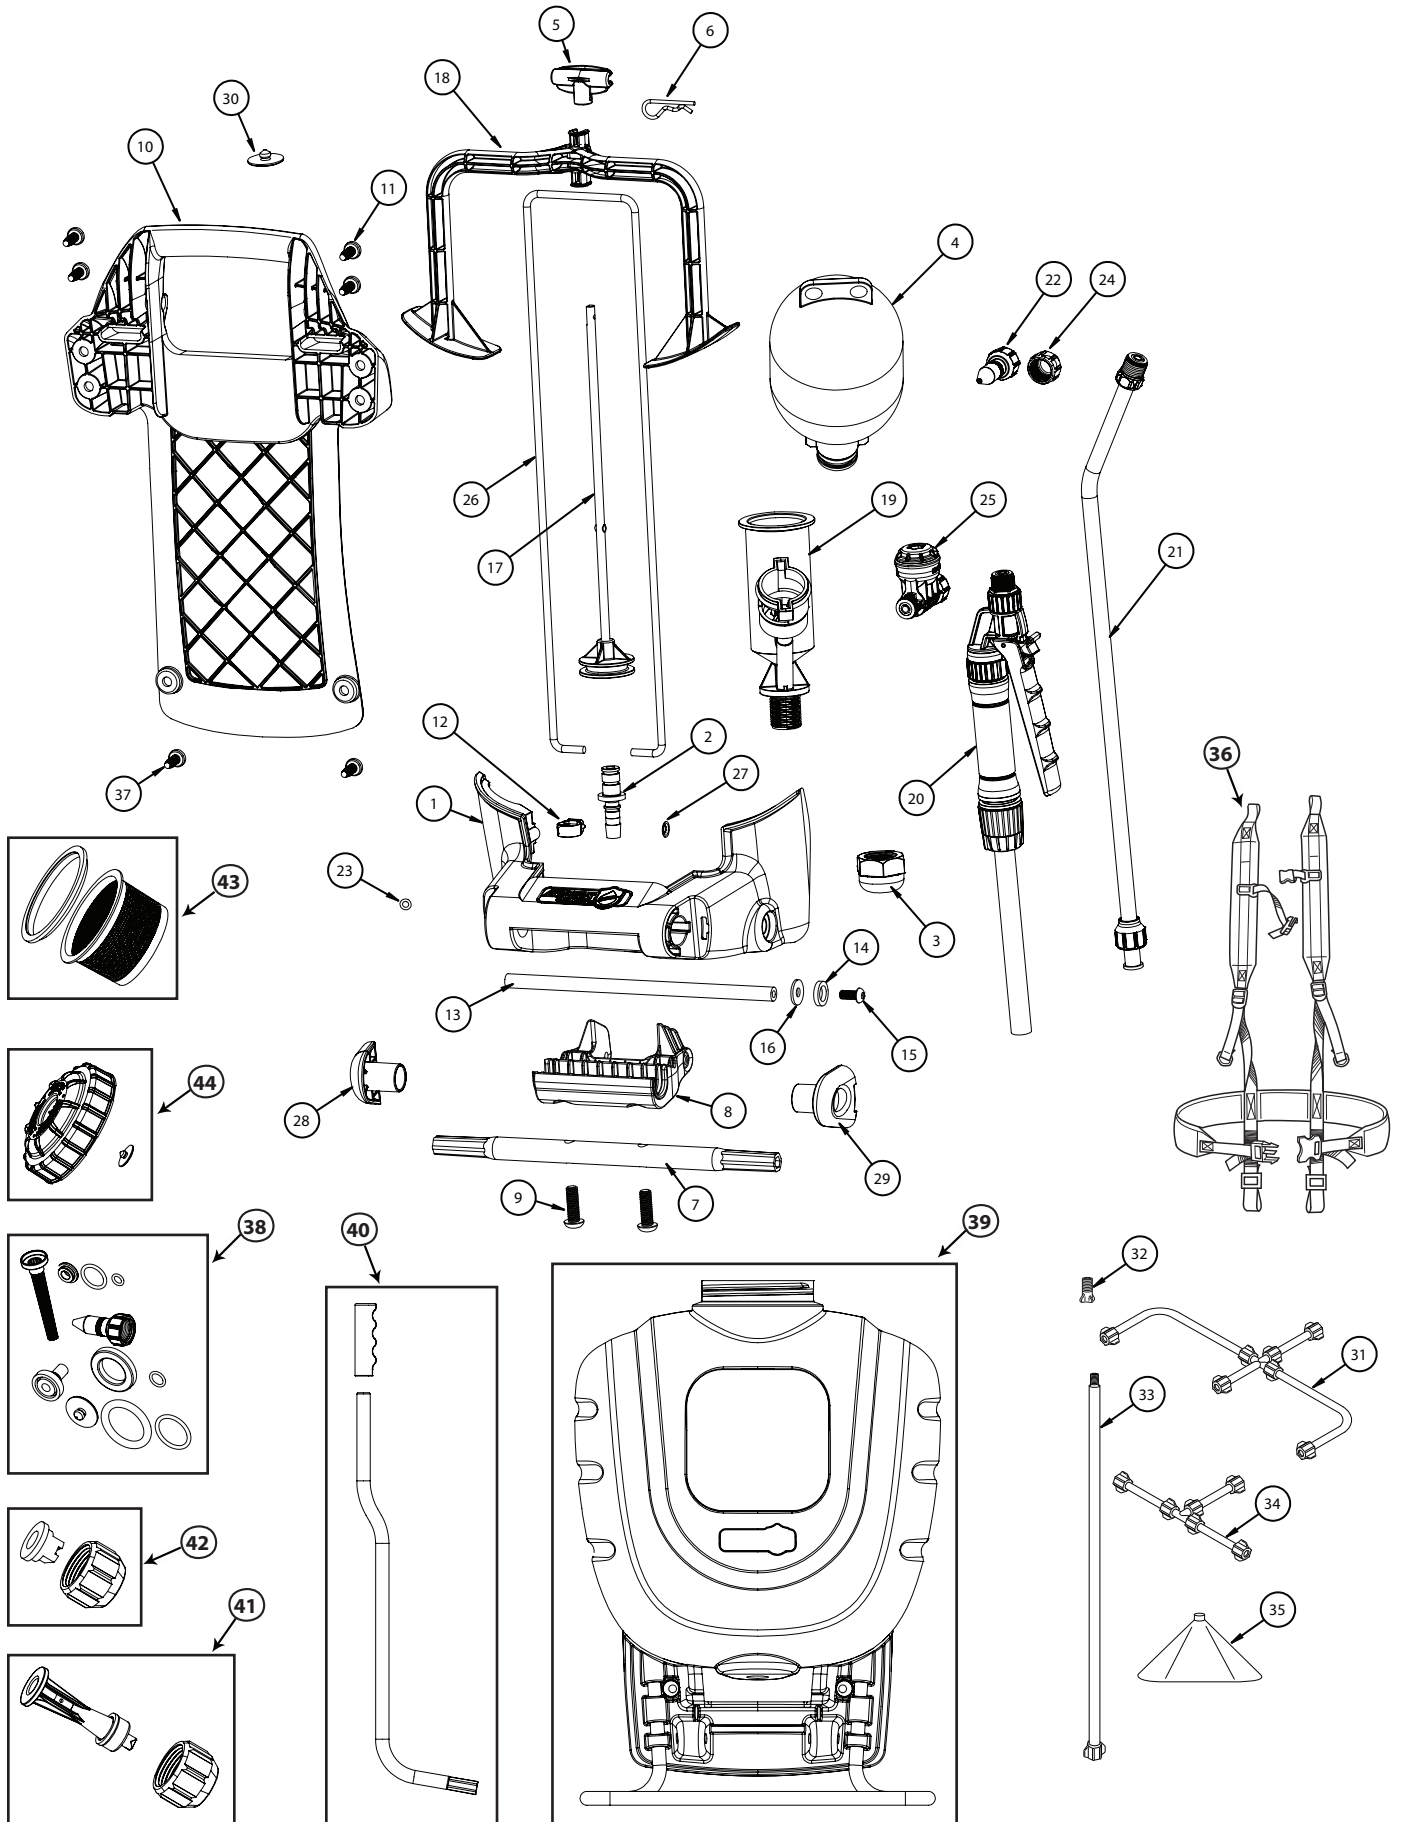

Figure 20
21. Replace tank cap, filter and pump lever. **(Figure 20)**